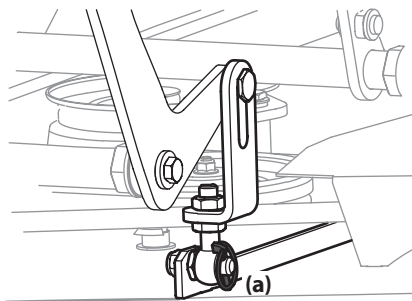

Figure 49
4. Remove the four lynch pins (a) that secure the deck to the deck lift assembly. See Figure 49.